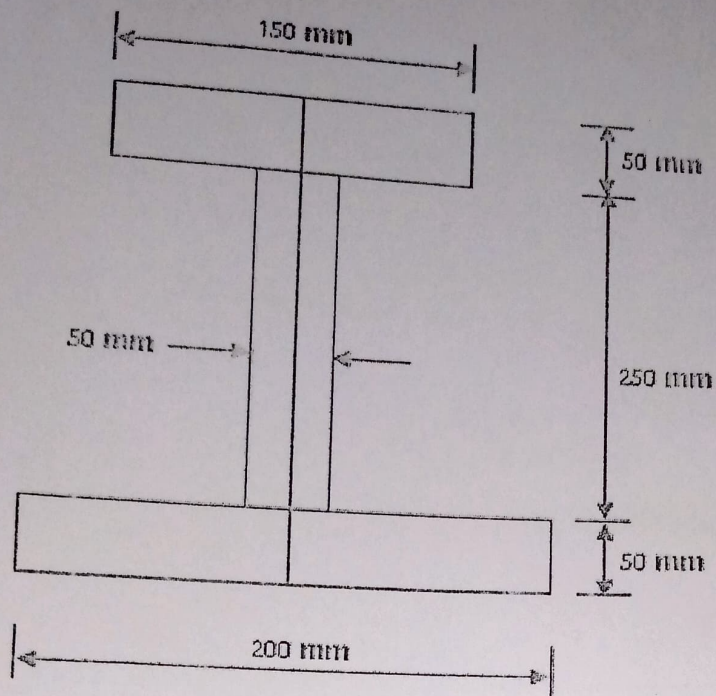

Figure 4
- a) Figure 4 shows a rolled steel beam of an unsymmetrical I section. Determine the centroid of the section. If the maximum bending stress in the beam section is not to exceed 50 MPa , find the moment which the beam can resist. (8 Marks)